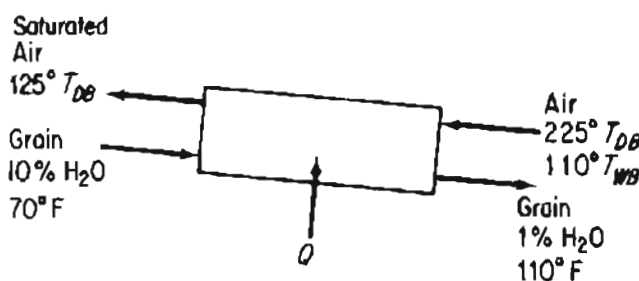

Figure P29.27
- *29.27 A rotary dryer operating at atmospheric pressure dries 10 tons/day of wet grain at 70°F, from a moisture content of 10% to 1% moisture. The air flow is countercurrent to the flow of grain, enters at 225°F dry-bulb and 110°F wet-bulb temperature, and leaves at 125°F dry-bulb. See Fig. P29.27. Determine: